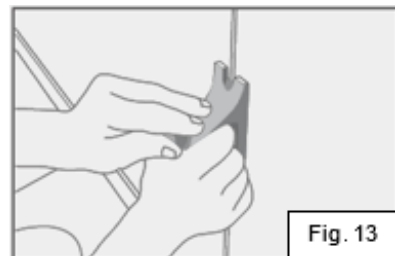

Fig. 13
8.16. Finally, use the Mozart skiving tool or quarter moon trimming knife to remove any excess of welding rod. This must be done in 2 passes. (fig.13).